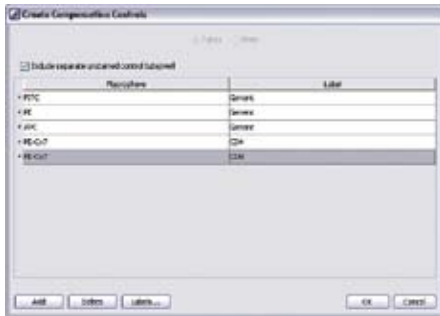

Figure 6. Window for creating compensation controls in BD FACSDiva software, showing two conjugates from the same tandem.
2. Create label specific controls if necessary (ie, the experiment contains more than one conjugate for a particular tandem) (Figure 6).